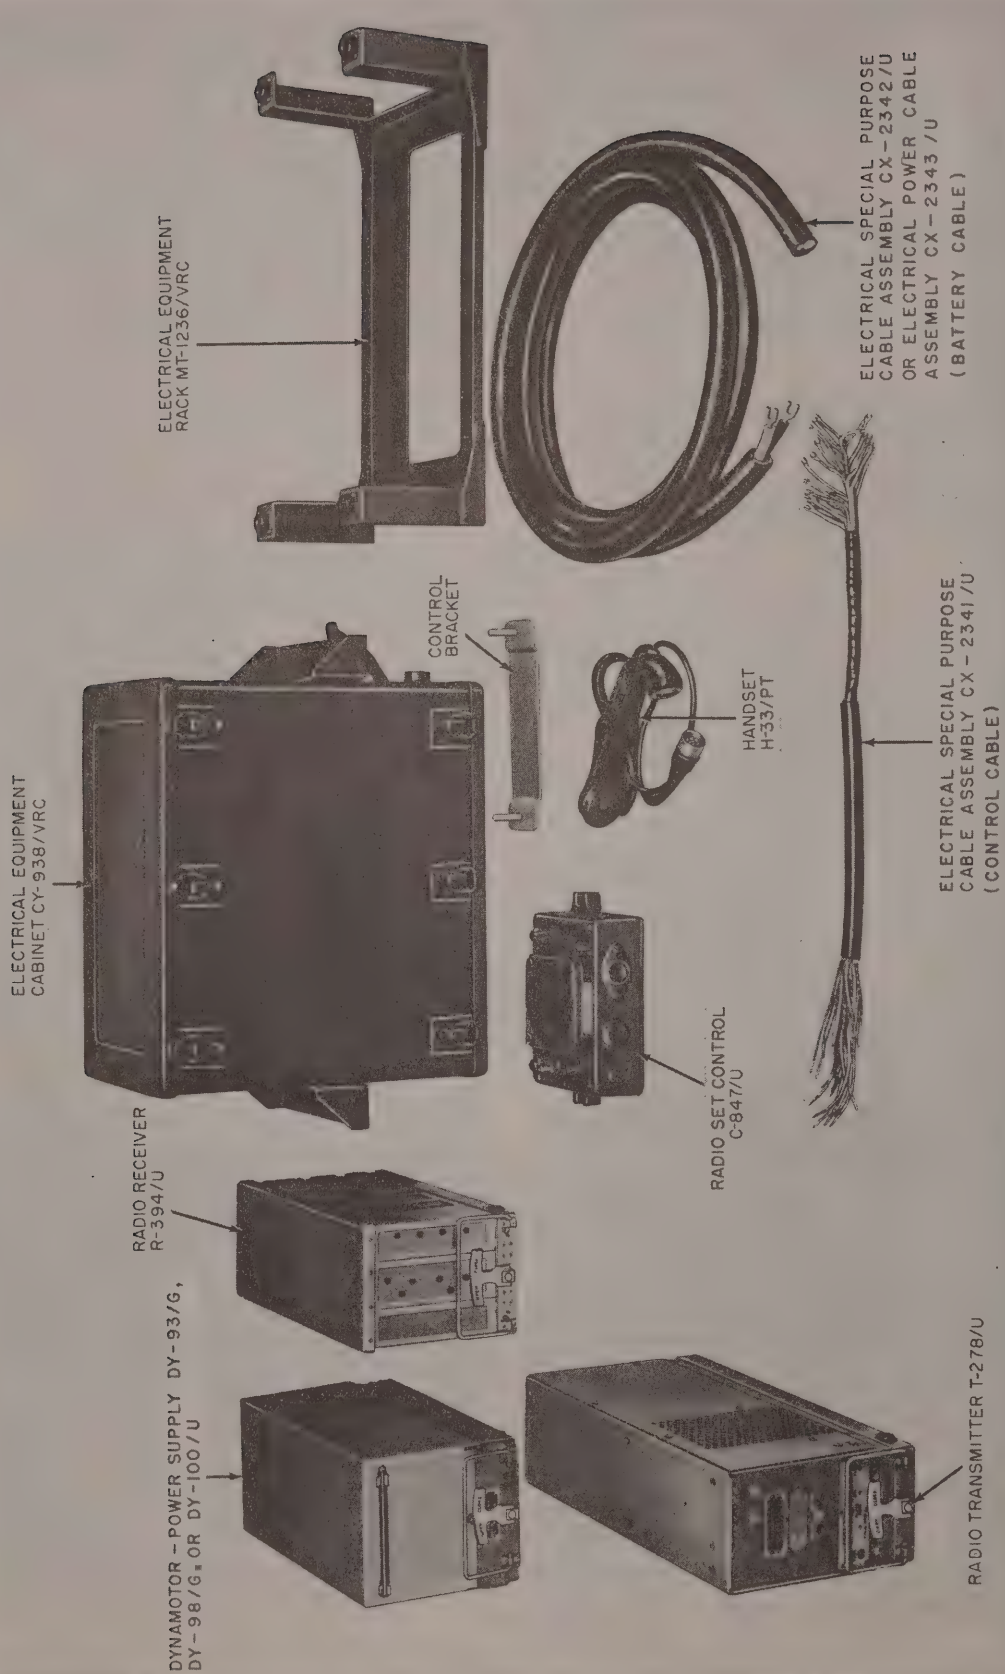

Figure 4. Radio set AN/VRC-19(*), operating components.
The crystals that determine the operating frequency are not supplied with the radio set. The correct crystal frequencies depend on the operating frequency assigned to the radio set in its particular field use. When the operating frequency is known, the required crystal frequencies may be found by using the methods described in paragraphs 85a(5) and 86b. The crystals then may be requisitioned through normal supply channels. The components (fig. 4) which make up the three models of Radio Set AN/VRC-19(*) are listed on following page.
b. *Electrical Special Purpose Cable Assembly CX-2341/U (Control Cable).* The control cable (fig. 4) consists of 20 wires cabled together and cut to reach between the control unit and the equipment cabinet. In installations where the control unit is located on the equipment cabinet, such as for jeeps, the cable is approximately 18 inches long. In other types of installations, where the control unit is mounted some distance from the equipment cabinet, the length of the cable may be 16 feet or longer. The necessary length of cable for any particular type of installation is included in the appropriate kit for that type of installation. Installation kits are not supplied with the radio set but must be ordered through normal supply channels. The lead that carries the microphone audio signal is shielded. This shield is grounded at the equipment cabinet end *only*.